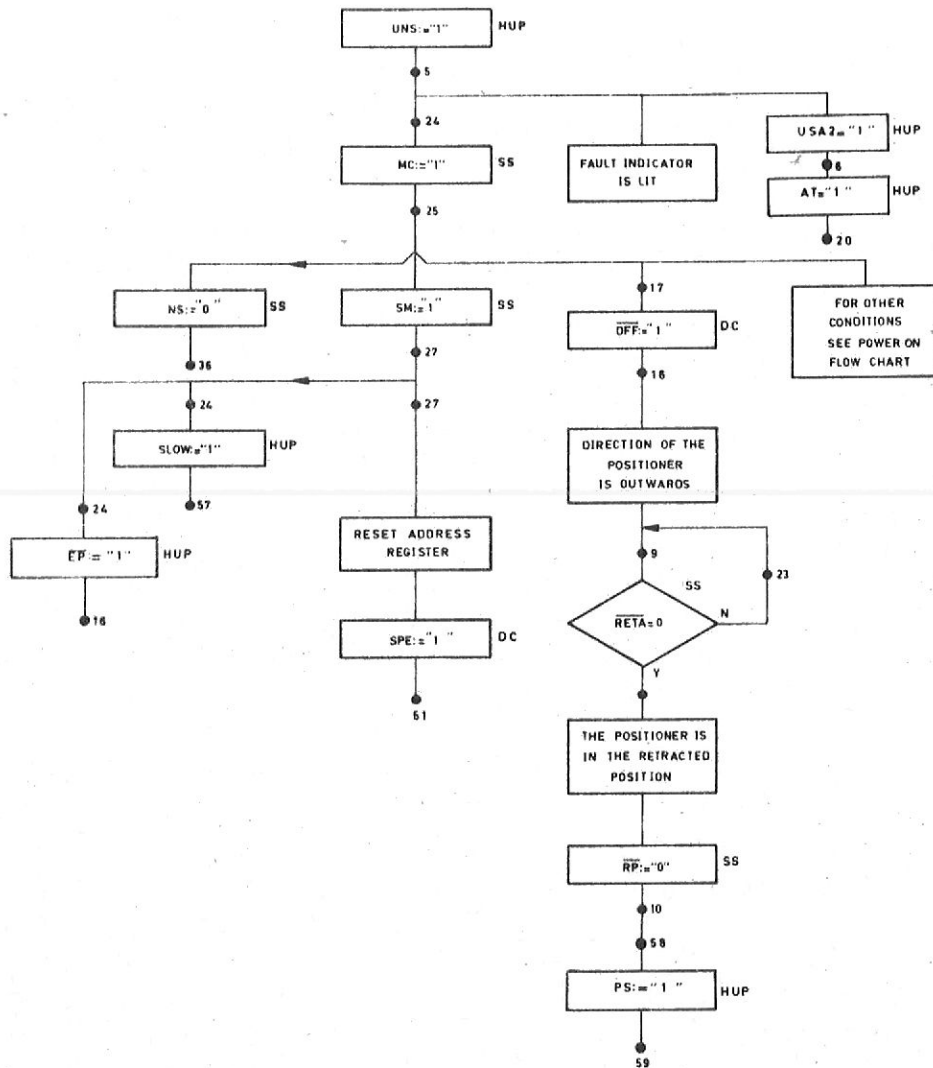

Figure 3-26 GO TO RETRACTED POSITION SEEK (UNSAFE 2)
7.9 GO TO RETRACTED POSITION SEEK (Figure 3-26)